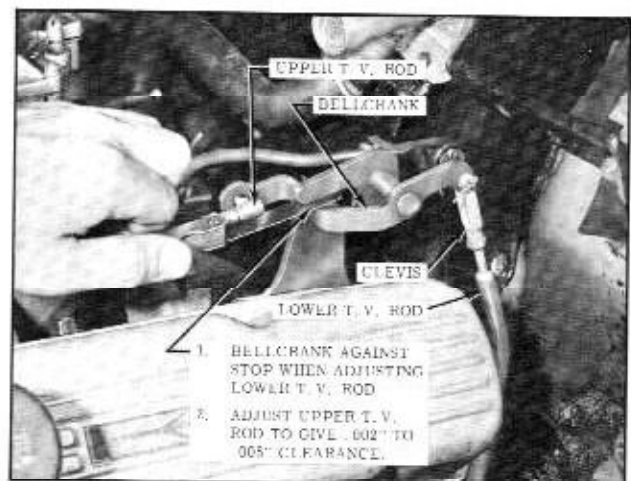

Fig. 3-139 Adjusting T.V. Rods
10. Adjust upper throttle valve rod "slightly short" and snap it onto the ball stud, then lengthen rod until a clearance of .002" to .005" is obtained at the throttle valve bellcrank stop. (Fig. 3-139)